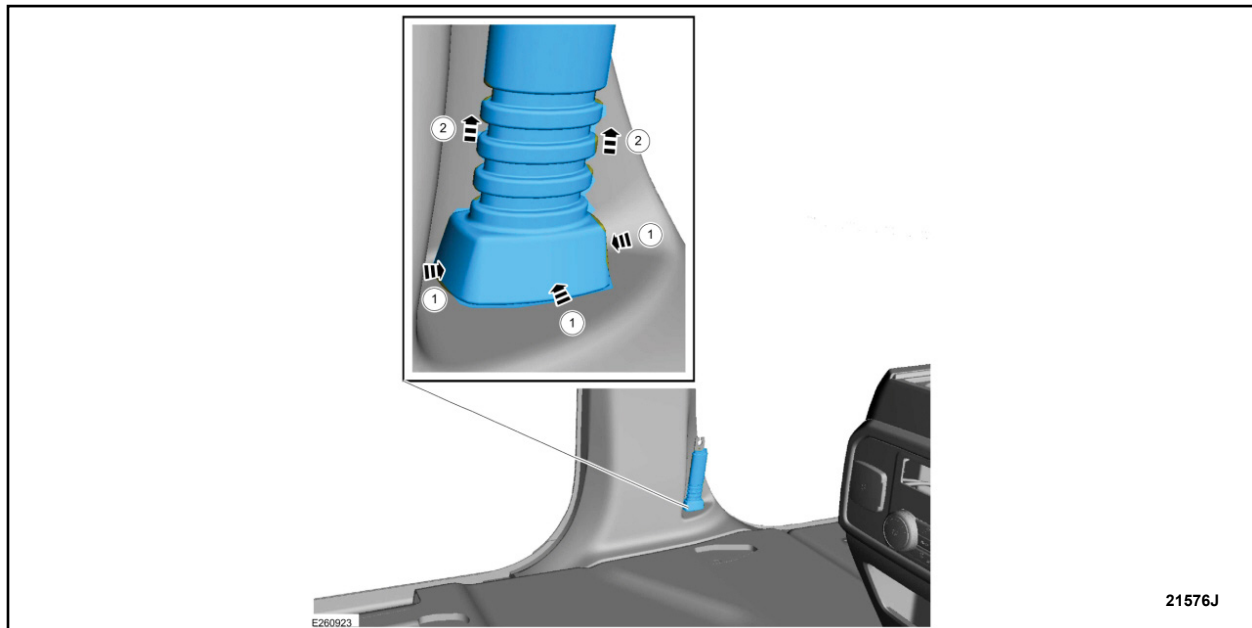

FIGURE 9
9. Press in on the sides of the front seatbelt anchor pretensioner boot, then lift up and remove the front seatbelt anchor pretensioner boot. See Figure 9.